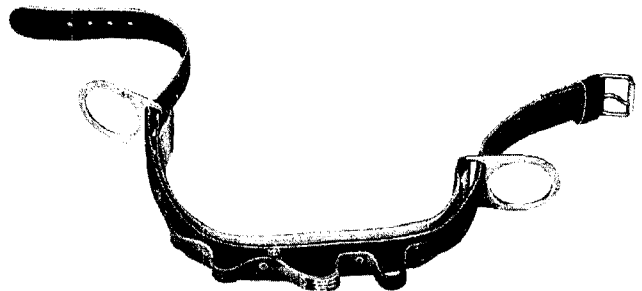

Fig. 4—F Body Belt
2.07 The F Body Belt is identical to the C Body Belt except that the strap portion is of six-ply construction, instead of four-ply construction, which provides adequate strength to permit the wearer to secure himself with a safety strap attached to only one Dee ring. The F Body Belt is illustrated in Fig. 4.